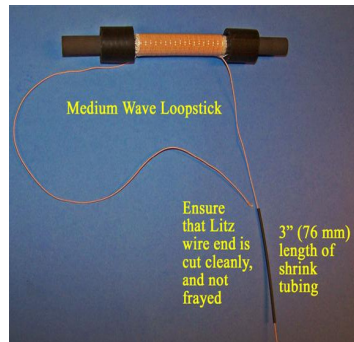

Figure 20
17) Refer to Figure 20. Place the PL-380 face down on a flat surface, with a soft cloth protecting the radio's front surface. Remove the battery access cover from the back cabinet, and remove all batteries from the radio. Place the whip antenna in the vertical position, as shown. Using a jeweler's screwdriver, remove the 5 screws at the points indicated, and place them in a safe place away from the work area.